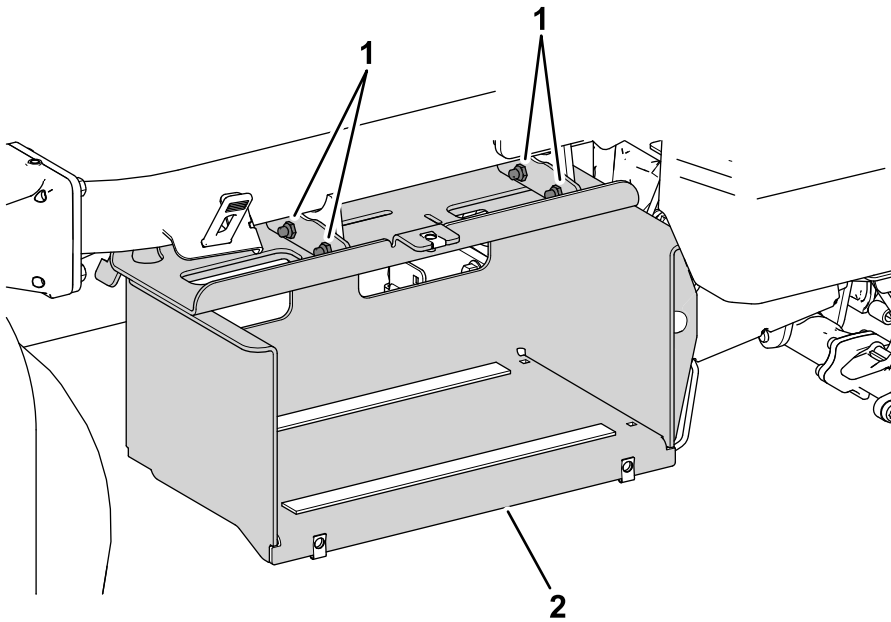

Figure 4
3. Remove the hardware (Figure 4) that secures the side battery trays to the machine frame.